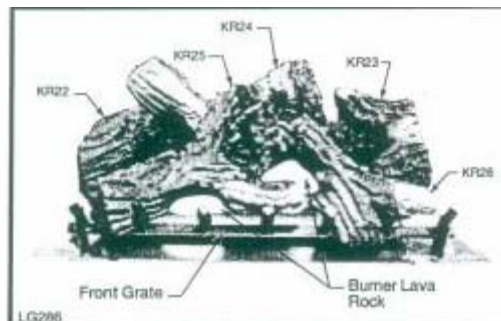

Fig. 19 LHEC30 log and lava rock placement.
- a) Place the rear centre log (KR24). Use the log’s bottom holes to locate it onto the two (2) pin studs of the rear log bracket on the centre.
- b) Place rear left log (KR22). Use the log’s bottom holes to locate it onto the two (2) pin studs of the rear log bracket on the left.
- c) Place rear right log (KR23). Use the log’s bottom holes to locate it onto the two (2) pin studs of the rear log bracket on the right.
- f) Place the burner lava rock on the front area of the burner housing. (Refer Fig. 19)